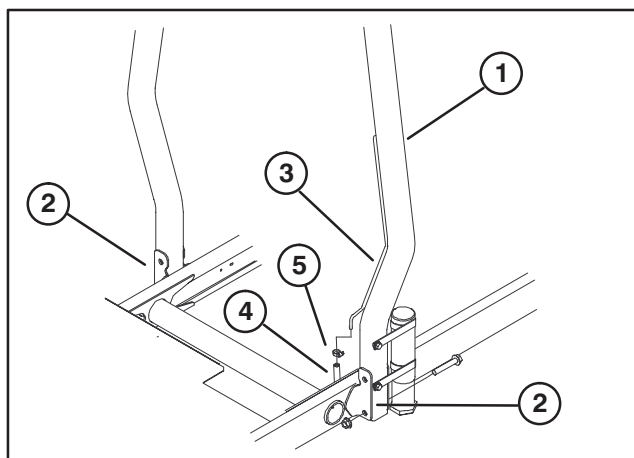

Figure 11
INSTALL ROPS (Fig. 11)
4. Secure each side of roll bar to mounting brackets with (2) flange head capscrews and locknuts (Fig. 11). Torque fasteners to 60 ft-lbs.